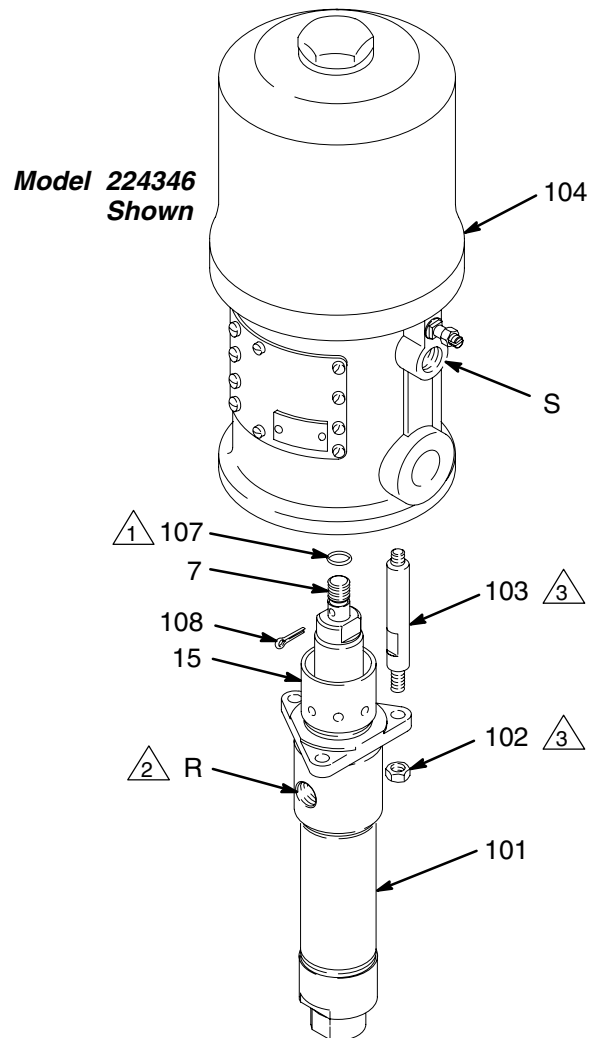

Fig. 4
2. Disconnect the air and fluid hoses. Remove the pump from its mounting. Note the relative position of the pump's fluid outlet (R) to the air motor's air inlet (S). See Fig. 4.
3. *On Models 224347 and 903295 only*, unscrew the riser tube (110) from the pump outlet elbow (109). Refer to the parts drawing on page 17.
4. Unscrew the locknuts (102) from the tie rods (103). Remove the cotter pin (108). Unscrew the displacement rod (7) from the air motor (104). Carefully pull the displacement pump (101) off the air motor. Inspect the o-ring (107).
1. Lubricate the o-ring (107) and check that it is in place on the displacement rod (7). Orient the pump's fluid outlet (R) to the air motor's air inlet (S) as was noted in step 2 under **Disconnecting the Displacement Pump**. Position the displacement pump (101) on the tie rods (103). See Fig. 4. *On Models 224347 and 903295 only, be sure the fluid outlet of the displacement pump is aligned with the riser tube and fluid outlet of the air motor.*
2. Screw the locknuts (102) onto the tie rods (103) loosely. *On Models 224347 and 903295 only, make certain that the fluid outlet elbow (109) is installed in the fluid outlet. Apply thread sealant to the parts of the riser tube assembly. See the parts drawing on page 17. Screw the riser tube (110) all the way down into the pump outlet elbow (109).*
3. Screw the displacement rod (7) into the shaft of the air motor (104) until the pin holes in the displacement rod and motor shaft align. Install the cotter pin (108).
4. Apply thread sealant to the pump fluid outlet (R) and the threads of the fluid hose. Mount the pump and reconnect all hoses. Reconnect the ground wire if it was disconnected during repair. Tighten the packing nut/wet-cup (15) so it is just snug – no tighter. Fill the wet-cup with Graco Throat Seal Liquid or compatible solvent.
5. Tighten the tie rod locknuts (102) evenly, and torque as shown in Fig. 4.